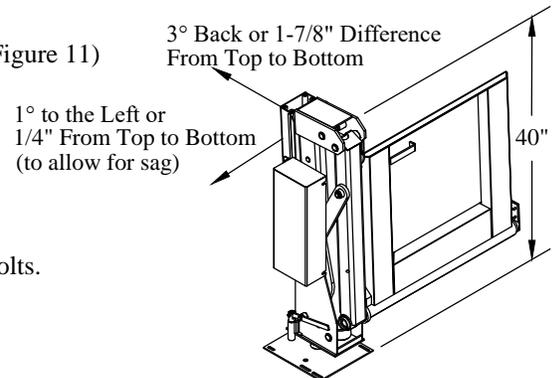
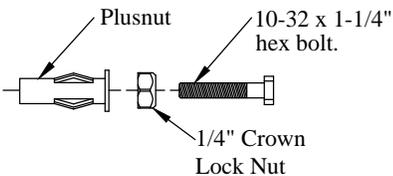

Figure 10: Liftgate properly tipped.
Figure 11: Plusnut Parts.
- 4. Position** the liftgate so it is tipped 3 degrees back and 1 degree to the left (Figure 10).
- 7. Locate and Drill** eight (8) 5/16" holes into the rear door header, using the top angle bracket as a guide. Choose eight (8) of the angle bracket holes without obstructions.
- 8. Assemble** the Plusnut with the 1/4" crown lock nut and 10-32 x 1-1/4" hex bolt (Figure 11)